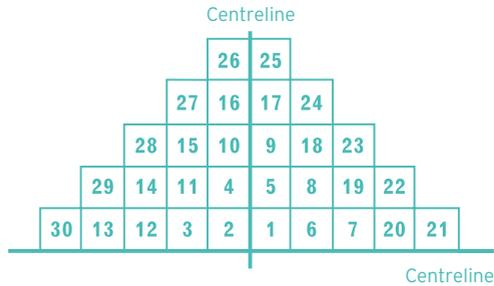

Figure 9 Pyramid layout
- ▶ Lay the first pyramid of tiles from the centrelines, using the sequence shown in fig. 9. Ensure a close bond is maintained at all times.
NOTE Construction of a pyramid should always start at the centre of the baseline, working in the same sequence as shown in Figure 9.